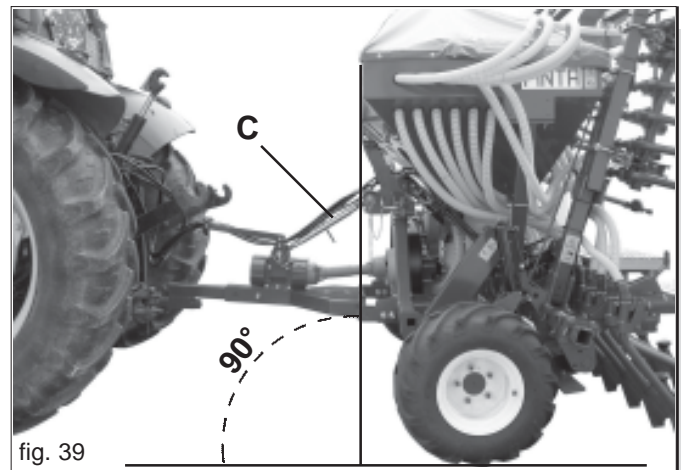

fig. 39
- 1) Attach the equipment to the tractor's load hooking bolt. Secure the load hooking bolt by means of the safety pin; using the regulating tie-rod (C Fig. 39) ensure that the seed drill is perpendicular to the ground (Fig. 39).